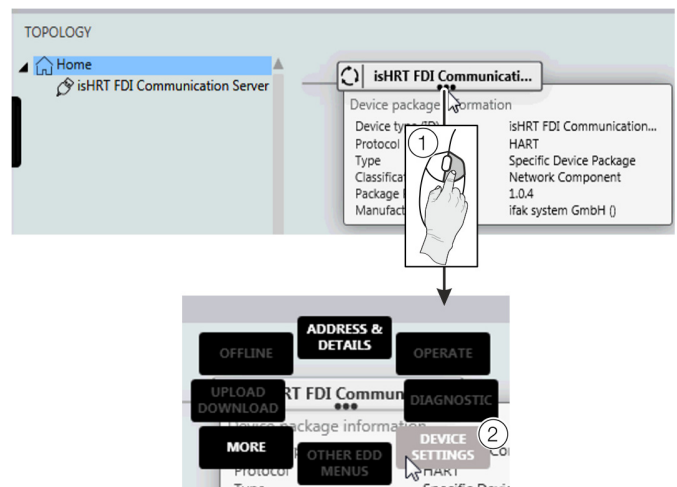

Figure 69: Select FIM – 'Device Settings'
6. Right-click ① as shown in Figure 69.
7. Select 'DEVICE SETTINGS' ② as shown in Figure 69.